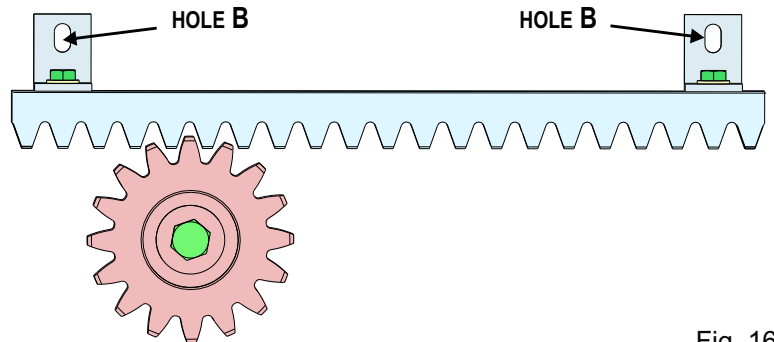

Fig. 16
- 6.3. Lean the rack element on the pinion - Fig. 16 - in parallel to the gate slideway on the ground